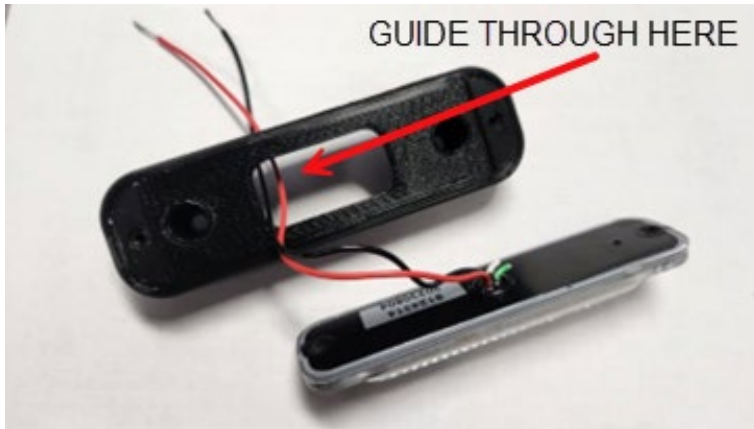

Figure 7: Red and black wires guided through the TWS light adapter
- Guide red and black wires from light unit through the opening of the TWS light adapter. Figure 7.